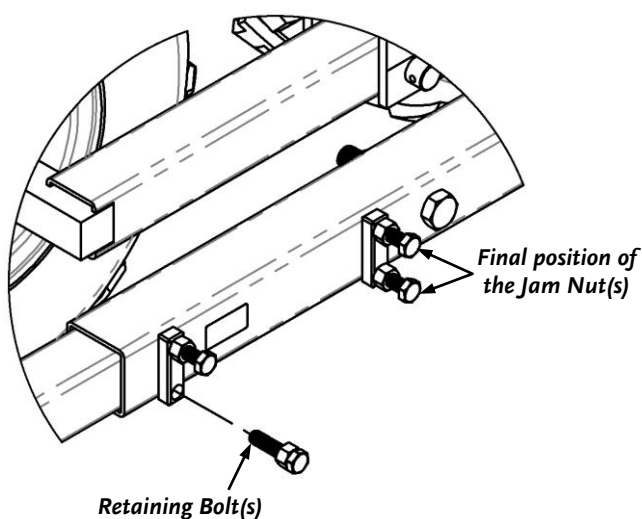

Figure 15
11. Insert the four Retaining Bolts into the Bosses on the left side of the Main Frame and securely tighten with an 18mm Socket (**Figure 15**).